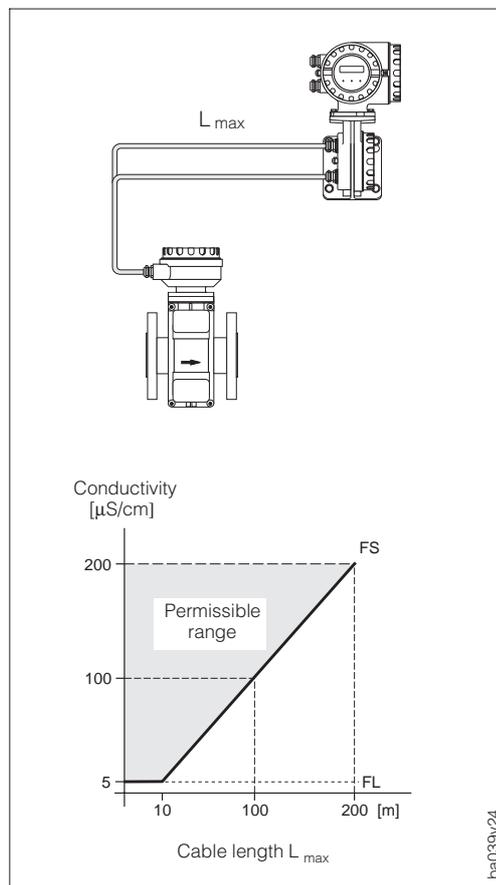

Fig. 19
- The permissible length of cable L_{max} of more than 10 m is governed by the conductivity of the fluid (see Fig. 19).
- All fluids with a minimum conductivity of $\geq 5 \mu\text{S/cm}$ (demineralised water $\geq 20 \mu\text{S/cm}$) can be measured. This is not dependent on the distance between transmitter and sensor (see Fig. 19).